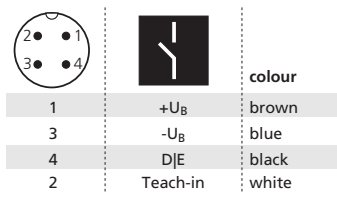
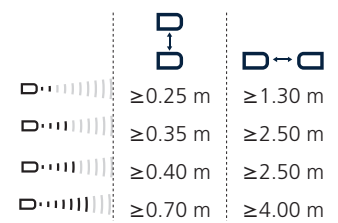

Fig. 1: Pin assignment with view onto sensor plug and colour coding of the microsonic connection cables
Fig. 2: Minimal assembly distances
- Connect a connection cable to the M12 device plug, see figure 1. The assembly distances shown in figure 2 for two or more sensors should not be fallen below in order to avoid mutual interference.